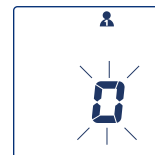

Figure 2
- After the device has completed its calibration against the ambient air pressure (Figure 2), the automatically controlled inflation process